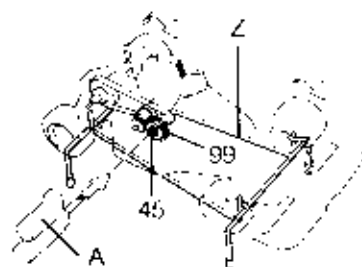
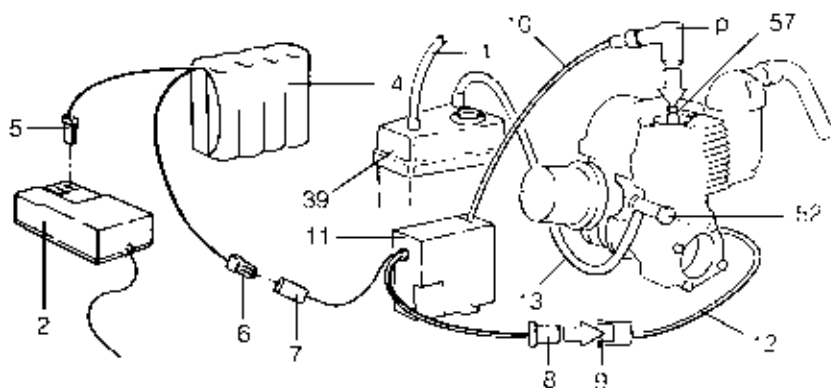

Fig. 2
Fig. 3
- place the model car on wire support "V", Compagnone (Code 00007), Fig. 2, and check that the 4 wheels turn freely when rotated backwards.
- *for petrol (gasoline) engines or those with methyl alcohol with spark igniter, fig. 3*
- that the 4.8 V dc mini-pack battery (4) is charged and connected by means of the connectors (6) and (7) to the electronic spark control unit (11) and by means of the connector (5) to the receiver (2).
- that the sensor (12) is connected by means of the connectors (8) and (9) to the electronic spark control unit (11).
- that the high voltage cable (10) is connected by means of the pipette "p" to the spark plug (57).
- Blow into the small air-intake tube "1" of the tank to fill the small tube (13) (Fig. 3), then start the engine - either new or one which has been stopped for some time - using the Compagnucci starter "A" (Code 00033) inserted over the nut (45), Figs. 2 and 17, or using a Standard starter in the same way or a portable electric drill with a special key supplied with the car mounted on it (Code CXX0006).
- if the engine is still running and you want to stop it, slide out the small tube "13" which connected the carburettor to the tank (39) (Fig. 3), from the side of the latter. In this way the engine will stop, using up the mixture remaining in the small tube "13", thereby "clearing" the carburettor and avoiding the problem described previously above. Then remount the small tube "13" on the tank;
- in the case of an engine with spark ignition, cut off the power supply to the electronic spark ignition control unit (1*) and to the receiver (2), disconnecting the connectors (5 and 6) which connect them to the battery (4).